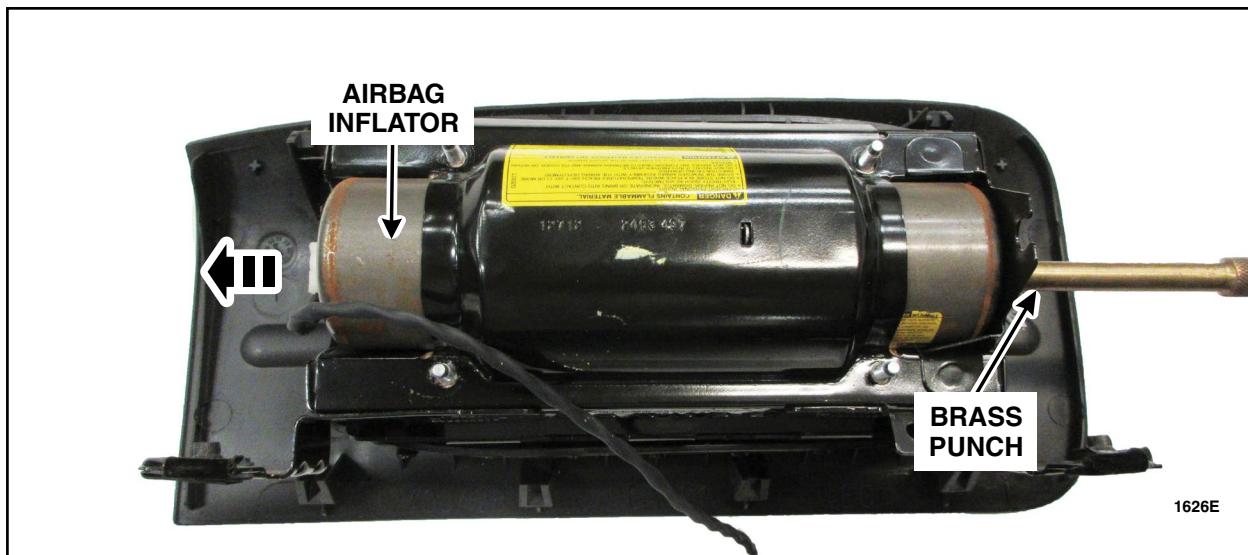

FIGURE 5
8. With an assistant holding the passenger airbag assembly, remove the inflator from the assembly by pushing outward on the inflator. Set the airbag inflator aside for return shipping. See Figure 5.